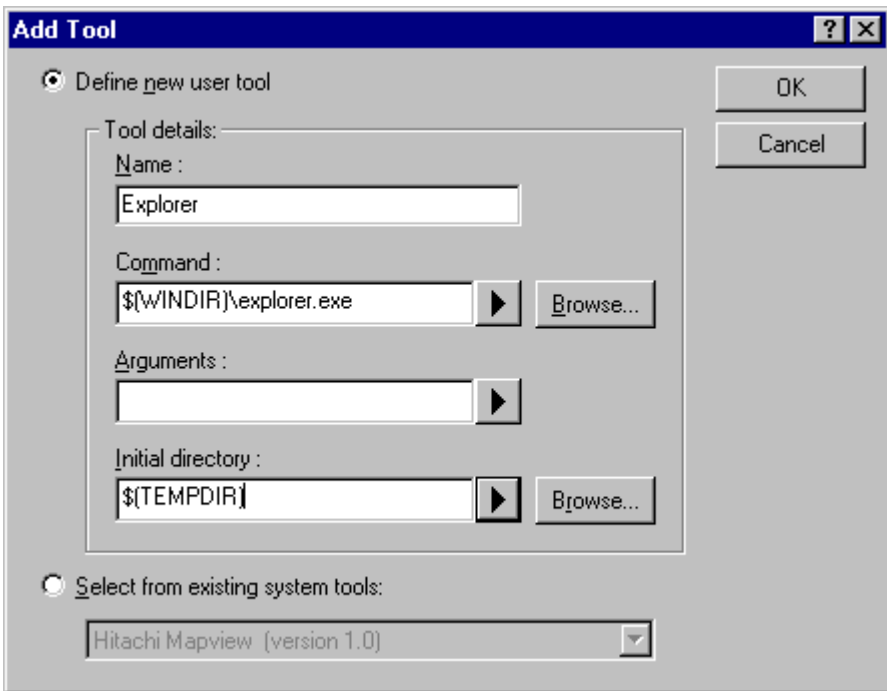

Figure 6.5: Add Tool Dialog
2. Click the “Add...” button (the dialog shown in * MERGEFORMAT figure 6.5 will be invoked). If you would like to add an existing system tool to the menu then select the “Select from existing system tools” radio button, choose the tool from the drop-down list and then click “OK”. Alternatively, if you would like to add a tool of your own then follow the remaining steps.